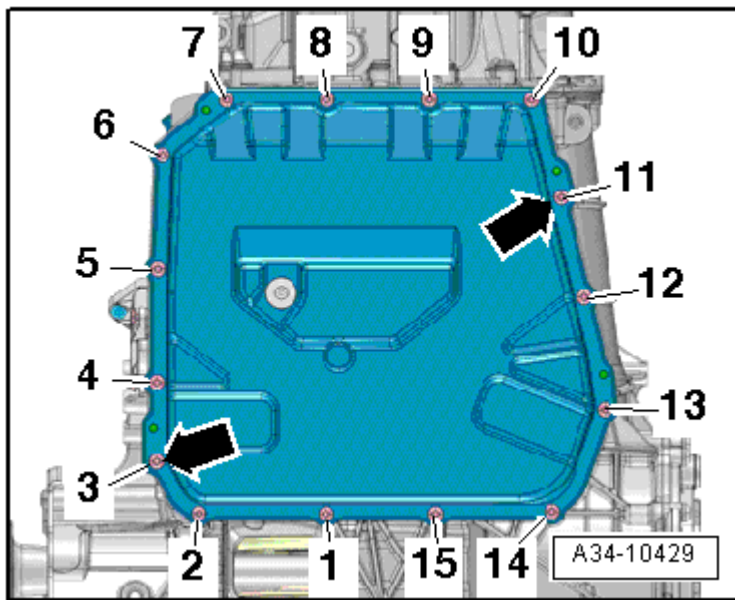

Fig. 2: Identifying ATF Oil Pan, Tightening Sequence
- Tighten the ATF oil pan bolts. Refer to **Fig. 2**.